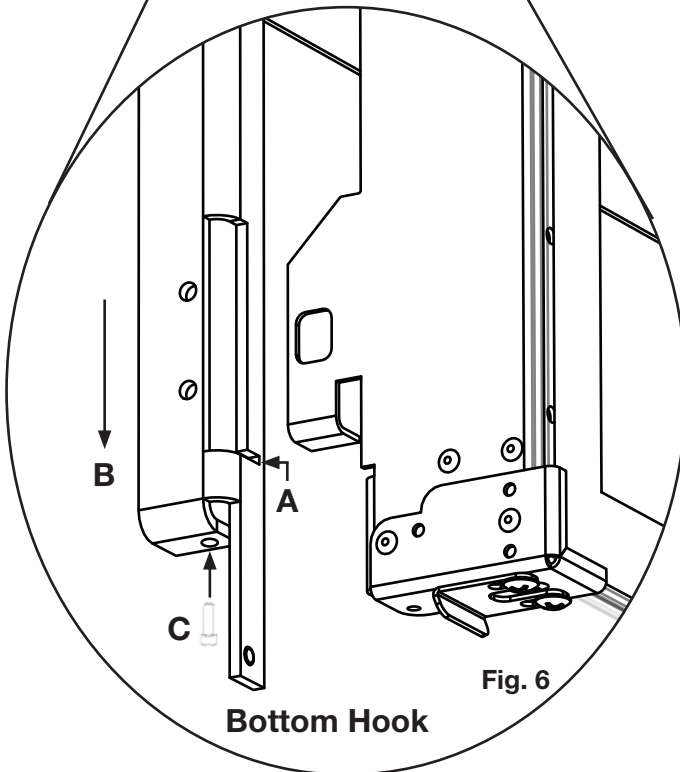

Fig. 6
7. Install 2 vertical adjustment screws underflush of GGA-1 slider bracket surface (**C**) (**Fig. 6**).